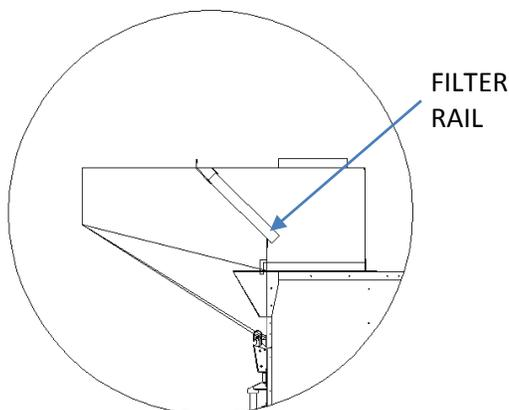

FIGURE 3
5. Install grease filters into front of hood by sliding them into the filter channel built into the hood (Figure 3).